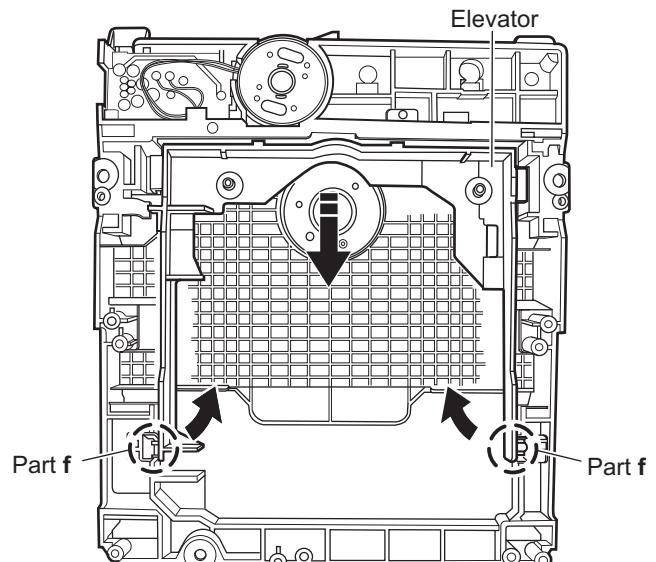
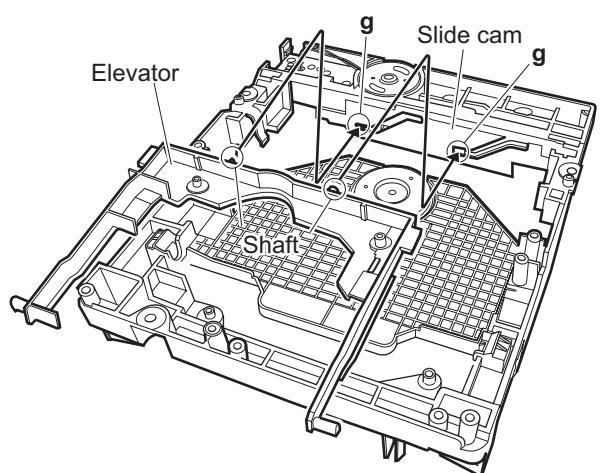

Fig.8
Fig.9
2.2.3 Removing the elevator (See Figure 8 and Figure 9)